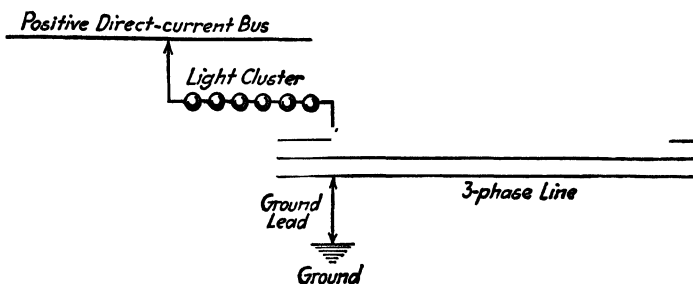

FIG. 20-11. Connections for cross test.
4. The same operator will then test each of the other two conductors (if three-phase) for ground, as described above under Testing for Ground (see Fig. 20-11). If a ground is indicated on one or both of the